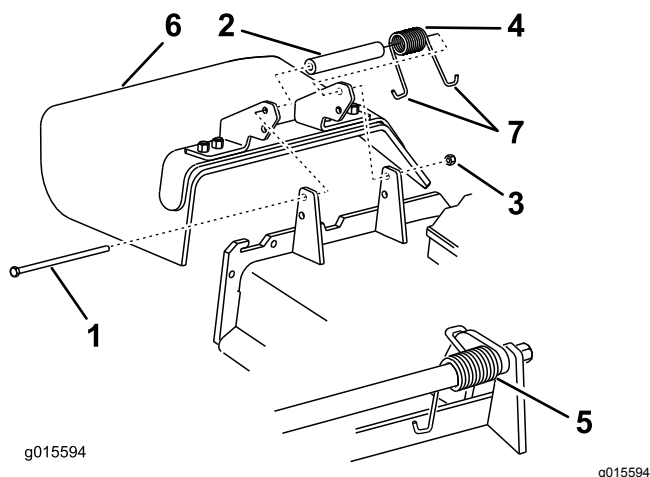

Figure 99
6. Place 1 J-hook end of the spring around the grass deflector (Figure 99).
1. Remove the locknut, bolt, spring, and spacer holding the deflector to the pivot brackets (Figure 99).
2. Remove the damaged or worn grass deflector (Figure 99).
Note: Make sure that 1 J-hook end of the spring is installed behind the deck edge before installing the bolt as shown in Figure 99.